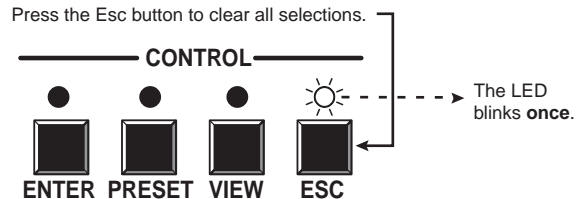

Figure 3-4 — Clear all selections
1. Press and release the Esc button (figure 3-4).